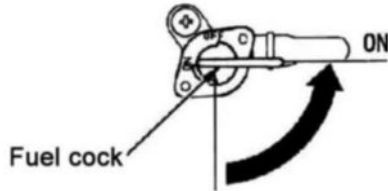

Fig. 9
1. Push the fuel cock to “ON”. (Fig.9) (Option)